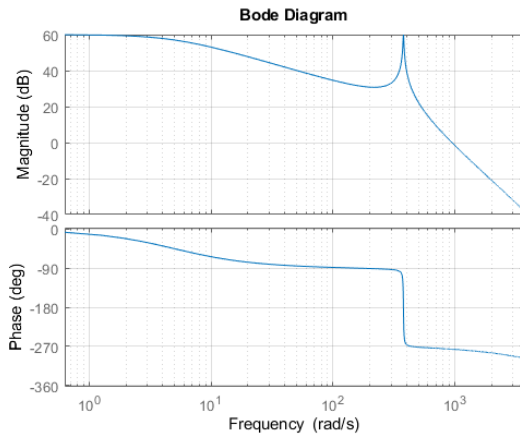

Figure 3: Voltage supply low pass filter (LPF) from $i_d(t)$ to $v_o(t)$.
Figure 3 shows the Bode plode for $L = 0.14$ H. This is a particularly bad choice because $|H(j\omega)| = |H(0)|$, meaning that the fundamental component of $i_d(t)$ passes perfectly through the LPF without any attenuation.
¹If you do not know how to read a log-scale axis, this is a good time to ask the TA. You should be able to explain that the peak in Fig. 3 occurs at $\omega = 377$ rad/sec/.
2. Compute the Bode plot as shown in Fig. 3.
- (b) Write a script using 'L2ABCD_sys' and Bode to produce the equivalent of Fig. 3.